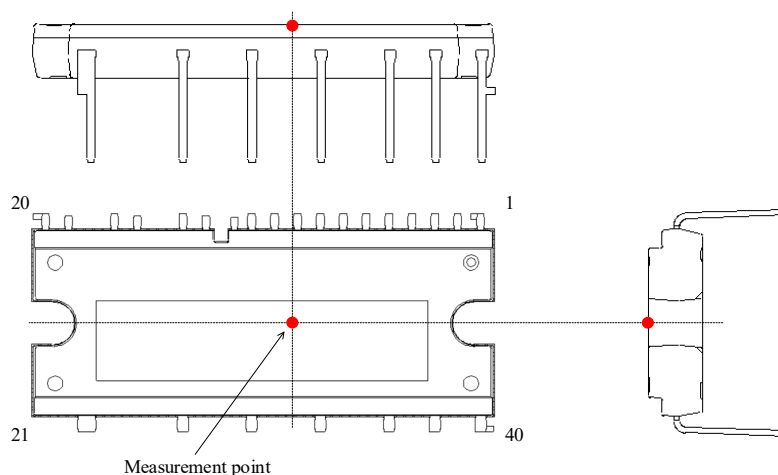

Figure 3-1. Case Temperature Measurement Point
(2) Refers to a case temperature at the measurement point described in Figure 3-1, below.